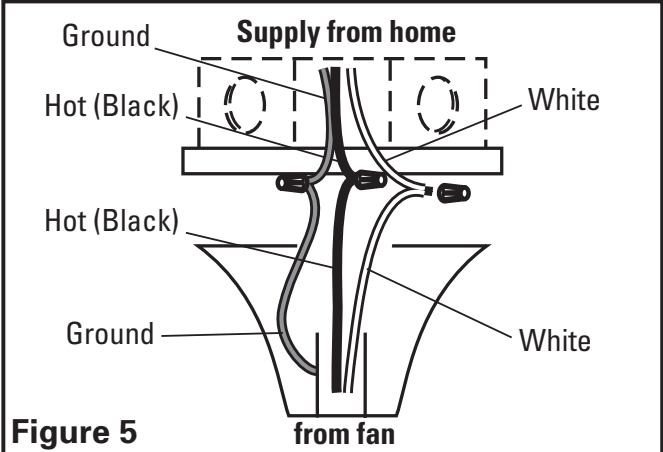

Figure 5
4. Make sure the electrical box is properly secured. Connect the White wire from the fan to the White wire from the supply. Connect the Black wire from the fan to the Black (hot) wire from the wall switch. Connect the Green or Bare Copper ground wire from the house to the Green wire from the fan. Use approved methods for all connections and carefully push wires up into the outlet box (Figure 5).